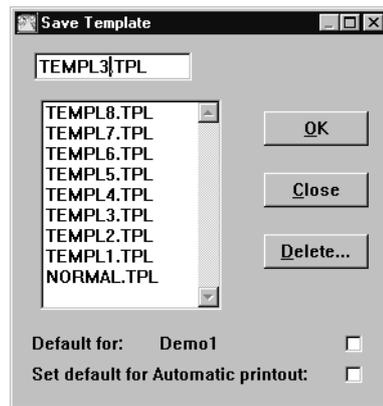

Fig. 14 The Save template dialogue box.
- 6 Select File/Save Template to show a dialogue box as shown in Fig. 14. In this box you can save the template you are currently using.